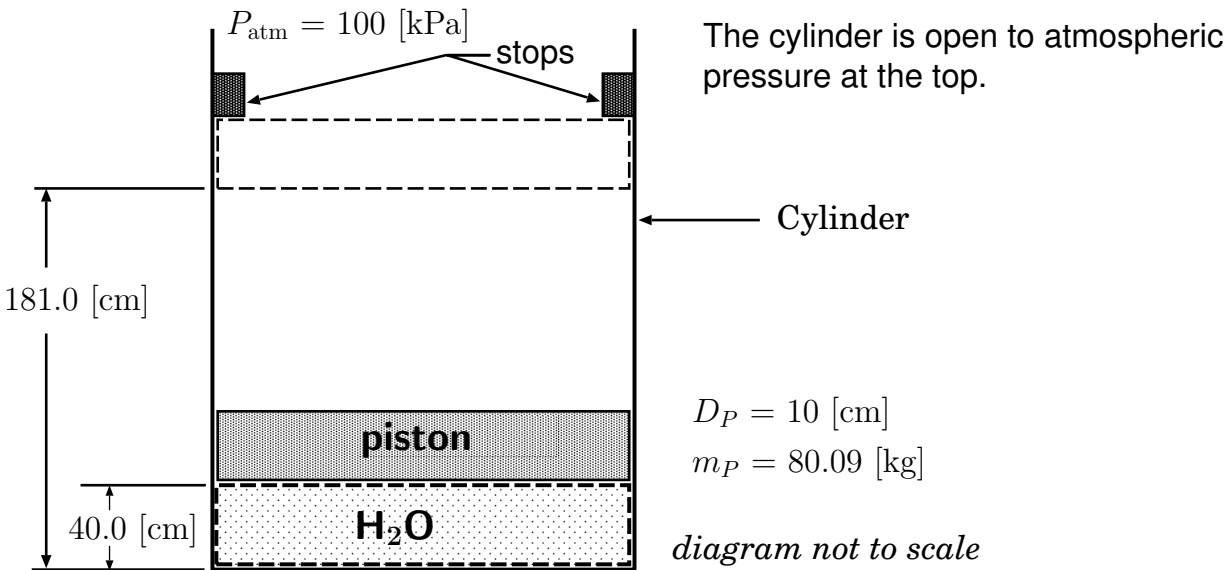

Figure 1: Figure for problem 1
1. A saturated mixture of water is contained in a piston-cylinder assembly as shown in Figure 1. The water has an initial quality of 25%. The mass of the piston is $m_P = 80.09$ [kg] and it has a diameter $D_P = 10$ [cm]. Take the atmospheric pressure to be 100 [kPa]. The piston is initially motionless at a distance of 40.0 [cm] from the bottom of the cylinder. The maximum height the piston can rise to, where it hits a set of stops, is 181.0 [cm] from the bottom of the cylinder, as shown in the figure. Heat is transferred to the water in the cylinder until a final pressure of 400 [kPa] is reached. Use a gravity constant $g = 9.80665$ [m/s²].